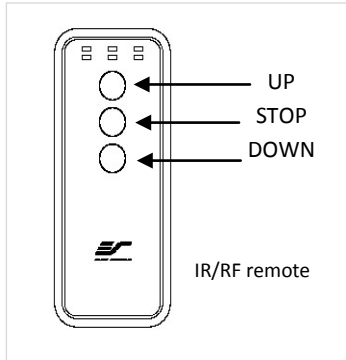
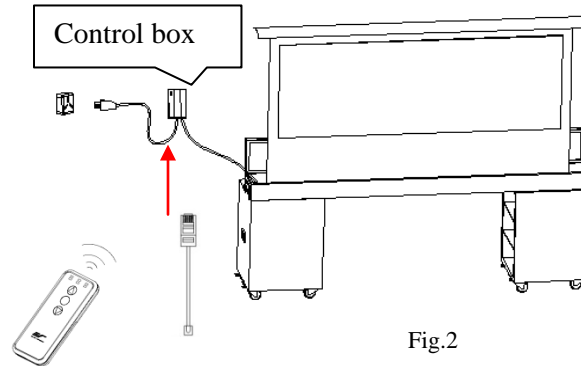

Fig.1
Fig.2
1. **IR remote control (Item A) and IR “Eye” Receiver (Item E):** The IR remote control (fig.1) requires line-of-sight to the IR sensor. The IR “eye” receiver must be connected to the Remote Control Wall box in order for the IR remote control to function. The IR “Eye” Receiver plugs directly into the screen’s RJ-45 input (fig.2).